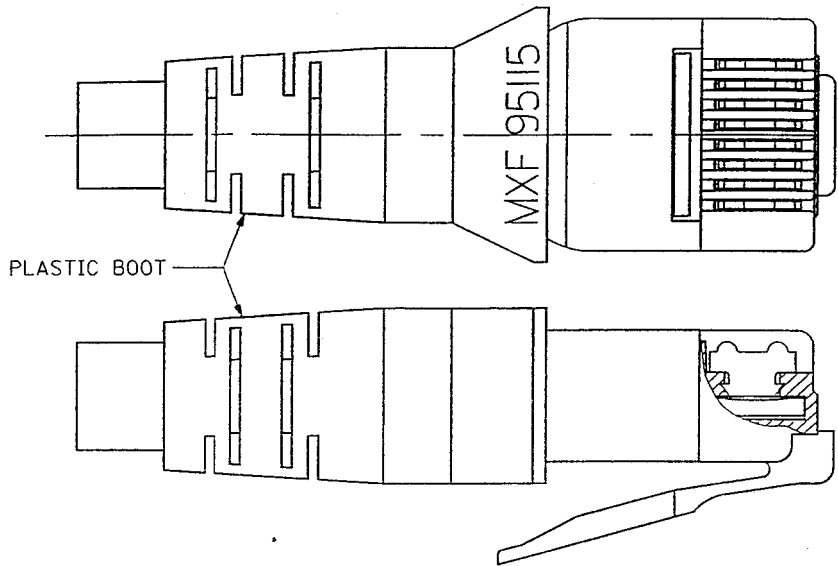

FIGURE 2
- A. Slide the boot onto the cable (if needed) (refer to figure 2 for proper orientation).